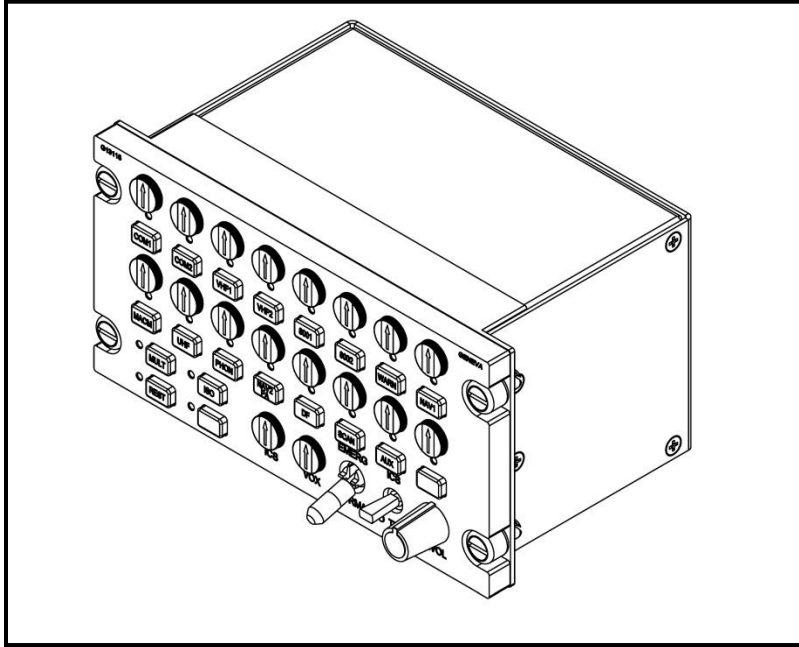
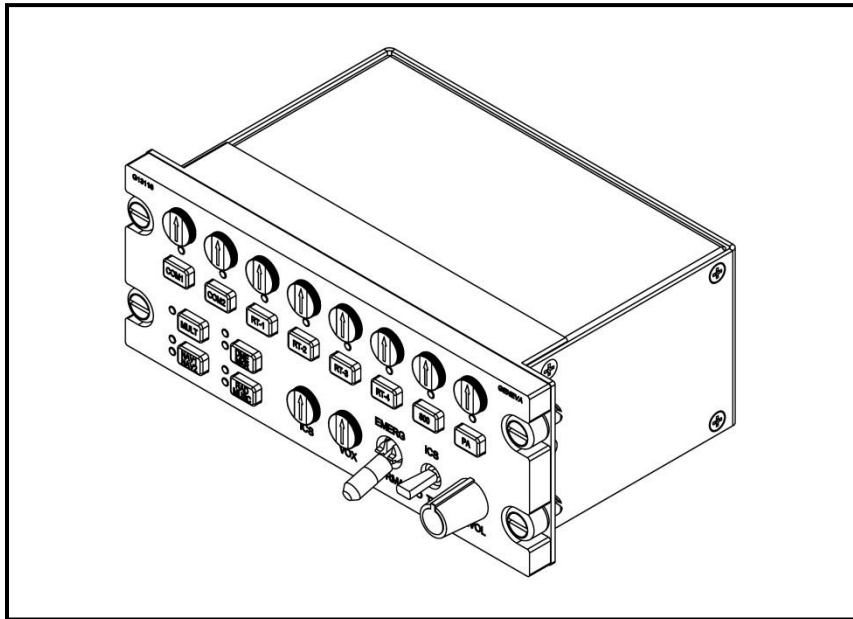

Figure 4: G13115 and G13115NS Control Panel
Figure 5: G13116 and G13116NS Control Panel
- a. There are 3 Digital Router Systems to choose from, the first is P139-HD (D) which uses Router G13000 in a “Dual-board” configuration. The second is P139-HD (S) which uses Router G13000 in a “Single-board” configuration. The third is P139-HD (T) which uses Router G13160 and is a “Three board” router.
- b. A minimum of 2 Audio Control Panels for the pilot and co-pilot. A typical installation will include 3 or more Audio Control panels for the pilot, co-pilot, crew members, and/or passengers. The Control Panels come in 4 different configurations P/Ns G13115, G13115NS, G13116, and G13116NS as shown in Figure 4 and Figure 5. The Audio Control Panels can be used interchangeably, depending on the control functions desired although G13115NS and G13116NS panels must not be used as primary control panels for Pilot or Copilot.